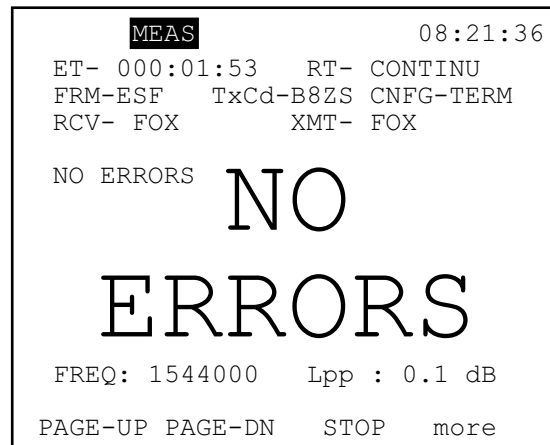

Figure 6 Measurement Results - NO ERRORS
11. Select MEASUREMENT RESULTS and refer to Figure 6.
- A. "NO ERRORS" should be displayed as shown in Figure 6.